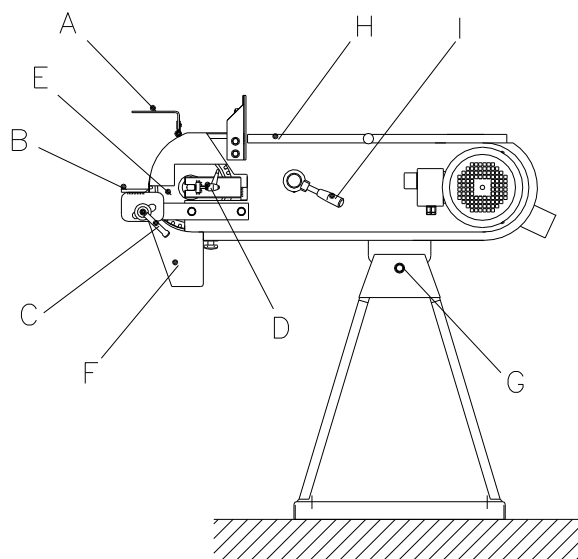

Fig.: 1.1
Eye shields, suction hose and perhaps dust bag must be mounted before use. The clamps for mounting the suction hose are placed in the dust bag. The eye shields (A) must be mounted into the eye shield fitting (see *fig.: 1.1*).